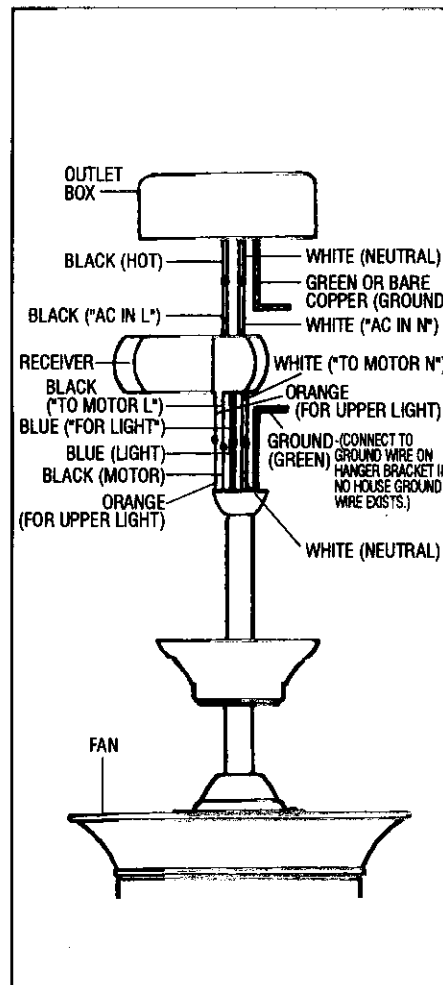

FIG. 13
Step 2. (Fig. 13 & 14) Motor to Receiver Electrical Connections: Connect the Black wire from the fan to Black wire marked "To Motor L" from the receiver. Connect the White wire from the fan to the White wire marked "To Motor N" from the receiver. Connect the Blue wire from the fan to the Blue wire marked "For Light" from the Receiver. Connect the Orange wire from fan to the Orange wire from receiver marked "For Upper Light". Secure wire connections with the plastic wire nuts provided.
Step 3. (Fig. 13 & 14) Receiver to House Supply Wires Electrical Connections: Connect the Black (hot) wire from the ceiling to the Black wire marked "AC in L" from the